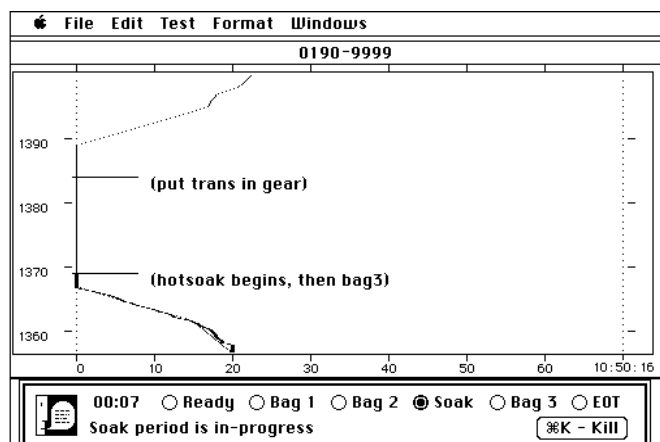

Figure 19
- 417 Verify that the vehicle hood is down and the power to the fan and CVS blower are turned off. Place a check mark on Form 730-01. The VDA also monitors the hot soak time on its screen. See Figure 19. The total soak time must be 10 minutes, ± 1 minute.